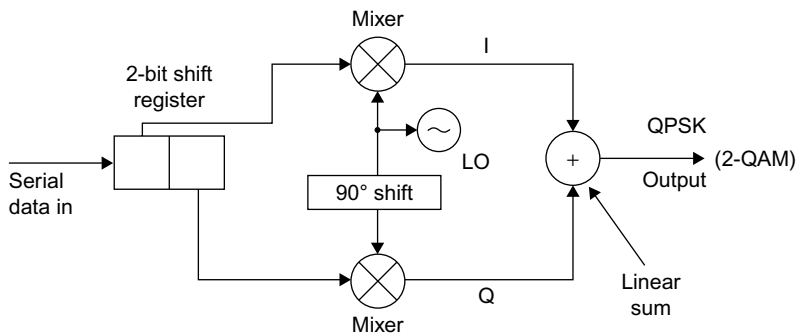

FIGURE 8.5 How QPSK is generated using mixers and a local oscillator shifted 90 degrees to produce in-phase (I) and quadrature (Q) signals that are summed.
The simplest form of QAM is 2-QAM, more commonly called QPSK or quadrature phase shift keying. It is produced by the circuit shown in Figure 8.5. It takes the serial bitstream and passes it through a 2-bit shift register producing two parallel bitstreams at half the rate. One is called the in-phase (I) bitstream and the other the quadrature (Q) bitstream. The I and Q signals are each applied to a mixer along with a local oscillator (LO) signal. The mixer output becomes part of the RF carrier. Note that the LO signal is applied directly to one mixer, but is shifted by 90 degrees and applied to the other mixer. The term “quadrature” means shifted by 90 degrees. The two mixer outputs are AM